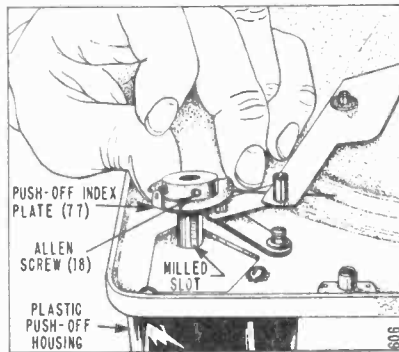

Figure 10. Installing Push-Off Index Plate.
**REPLACING THE PUSH-OFF INDEX PLATE (77)**
Position the push-off index plate (77) as shown in figure 10. Be sure that the Allen screw which is called out "falls into" the milled slot.